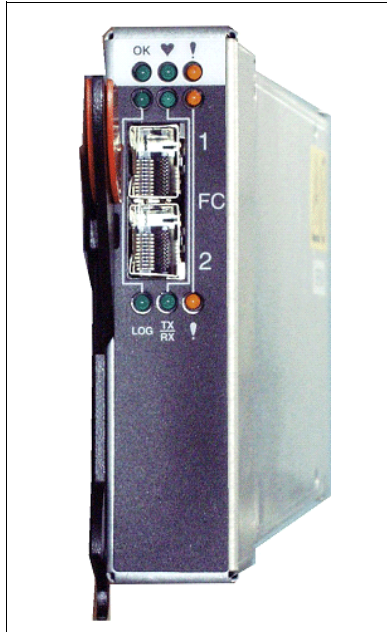

Figure 1-12 BladeCenter 2-port Fibre Channel Switch Module
2. Install one BladeCenter 2-port Fibre Channel Switch Module (Figure 1-12 on page 14) in switch bay 3. If redundancy is required, a Fibre Channel switch module must be installed in switch bay 4.